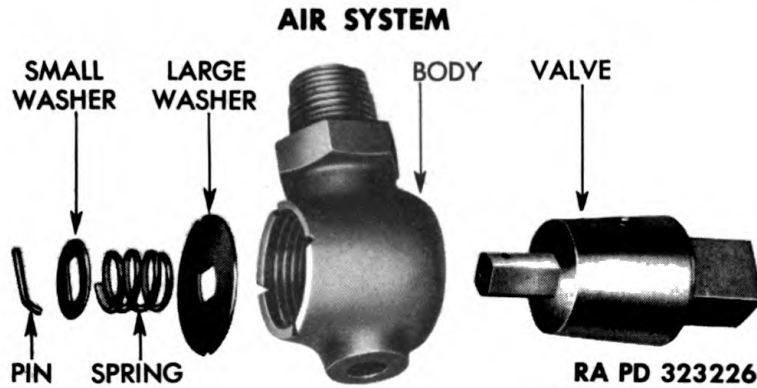

Figure 232 — Air Reservoir Tank Drain Cock Disassembled
a. **Description** (fig. 232). A drain cock is used in the bottom of each air reservoir tank to provide a means of draining condensation that normally collects in tanks. The drain cock consists of a brass
b. **Disassemble** (fig. 232). Remove pin from end of drain cock valve. Lift off small washer, spring, and large washer; remove tapered valve from body.
d. **Assemble** (fig. 232). Apply thin coating of grease on tapered surface of valve, and place it in body. Place large washer over end of tapered valve with upset groove toward body. Place spring and small washer over end of tapered valve. Compress spring, and install retaining pin.